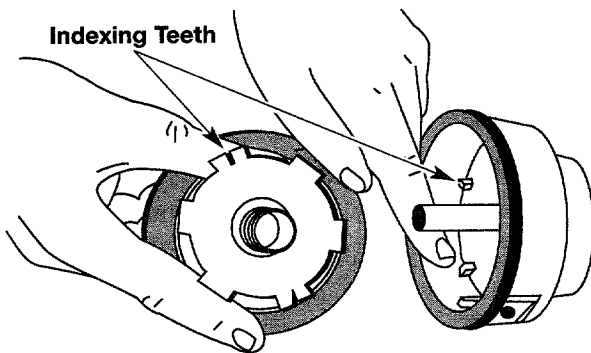

Figure 23
5. Check the indexing teeth on the inner reel and outer spool for wear. If necessary, remove burrs or replace the reel and spool. See Figure 23.